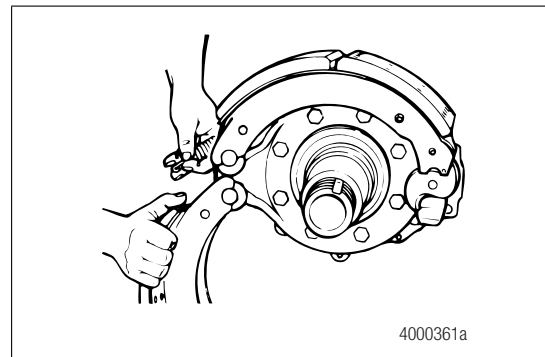

Figure 5.14
2. Place the upper brake shoe into position on the top anchor pin. Hold the lower brake shoe on the bottom anchor pin. Install two new brake shoe retaining springs. Figure 5.14.